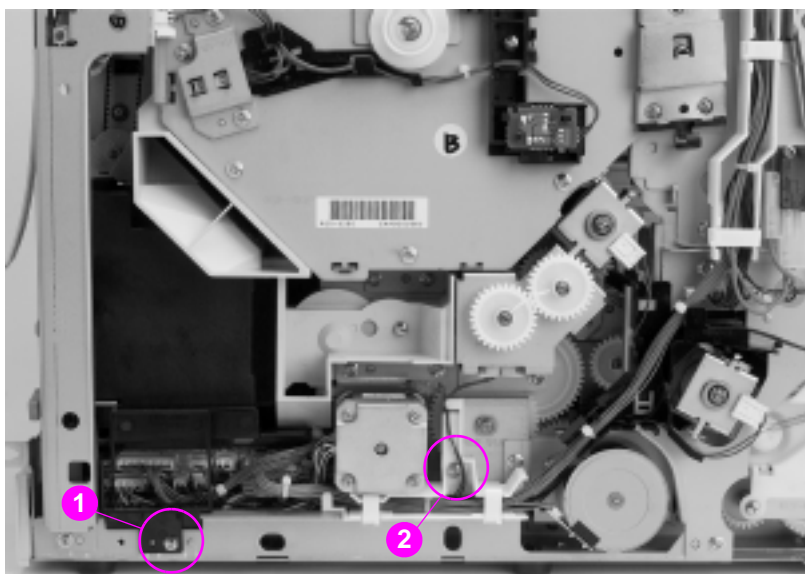

Figure 6-43 Fuser motor removal and replacement (1 of 2)
- 4 Remove the screw shown in Figure 6-43 (callout 1) and remove the black plastic piece.
- 4 Remove the screw as shown in Figure 6-43 and remove the shroud.